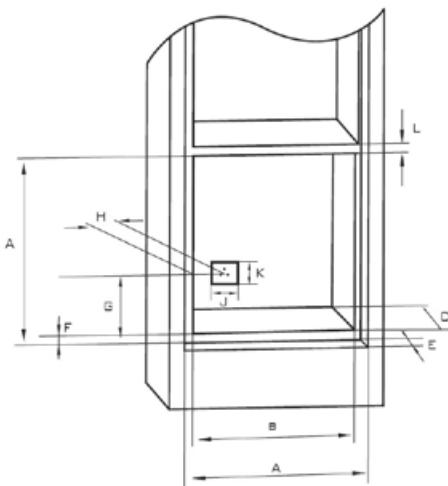

Fig. 8a
- The unit should be installed in standardised kitchen furniture designed for built-in appliances or in properly adapted furniture of dimensions according to Fig. 8a, 8b.
- For the required built-in box dimensions see Fig. 8a, 8b. For the sake of efficient air circulation the unit has to be located according to the dimensions on the pictures and the design of the cabinet must enable air flow into its bottom part.